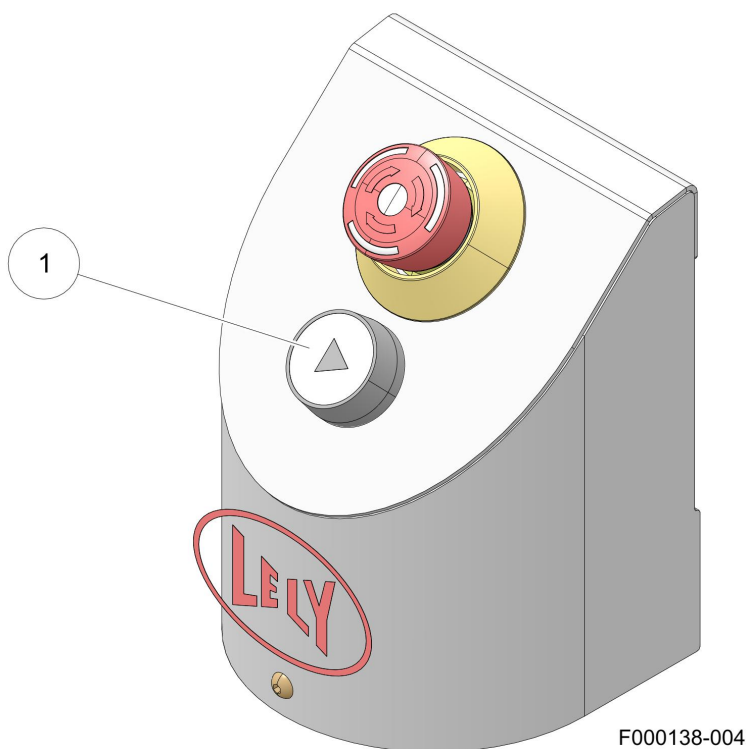

Figure 39. Start button on console
3. On the console, push start (1) (see figure 39 on page 5-2), the system checks if all gates and doors are closed and the start button blinks quickly.
4. When the start button no longer blinks, push start (1) again, the system starts.